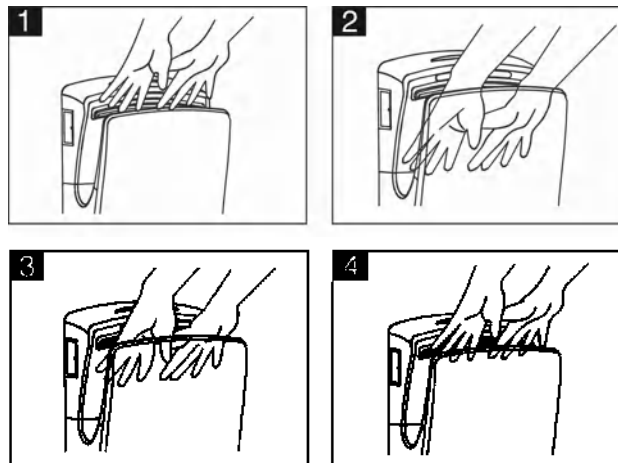

fig.5
- Place hands into the aperture (see fig.5).